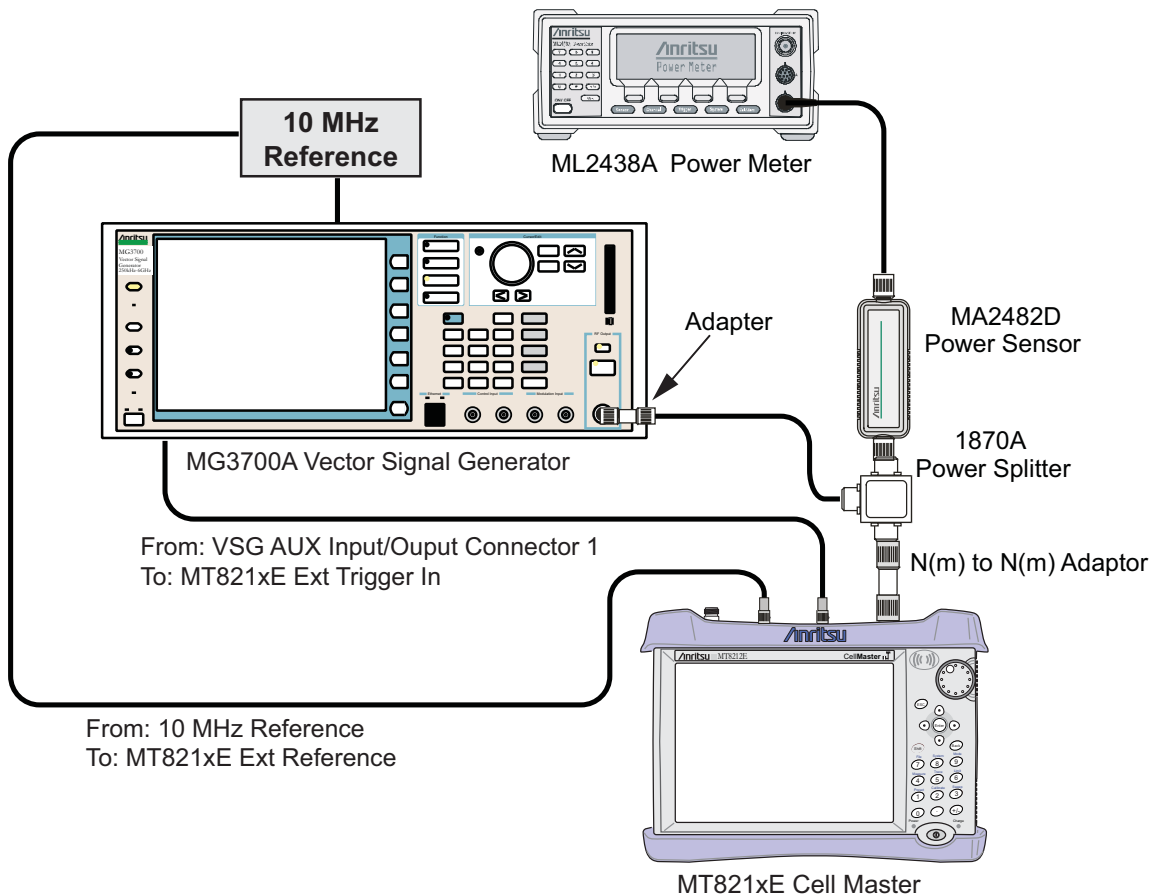

Figure 5-7. CDMA Signal Analyzer Option Verification
2. Connect the equipment as shown in Figure 5-7.
4. Set the MT821xE mode to CDMA Signal Analyzer. Press **Shift** and press **Preset** (1) to preset the MT821xE.
1. Confirm that the equipment settings are unchanged from the previous test. Refer to Figure 5-7 on page 5-31.